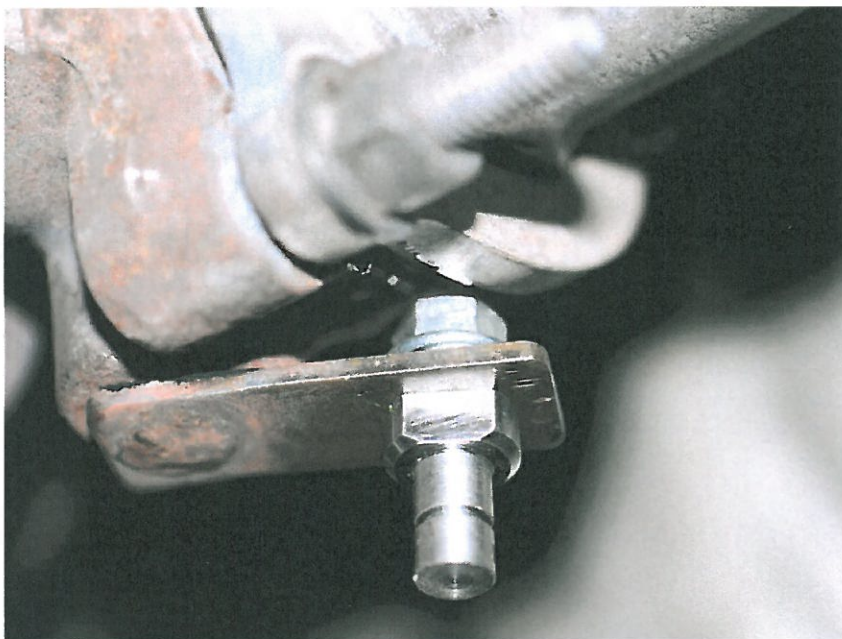

Fig. 6 Attachment of the new pin
15. Install the new pin to the waste gate lever. The thread of the pin must point to the exhaust manifold. See Figure 6.
16. Attach the new pin with the safety washer and the stop nut. Tighten the stop nut to the specified tightening torque and hold the pin steady (use a 10mm open-end wrench). See Figure 6.